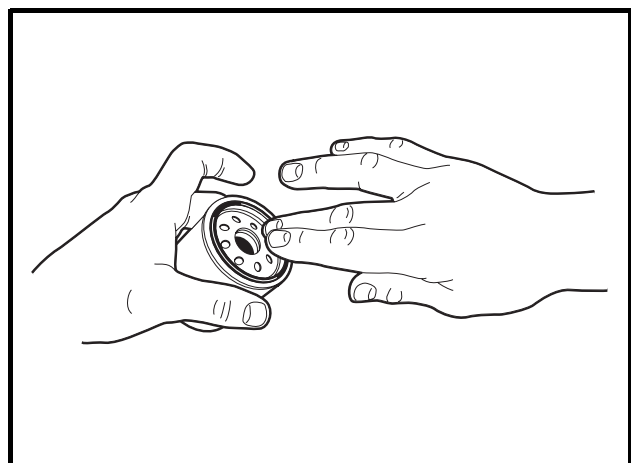

Figure 30 Coat Oil Filter Rubber Seal
11. Install a new oil filter (CCI P/N 1016467) onto the engine oil filter port. Apply a light coat of white lithium NLGI Number 2 grease (Dow Corning® BR2-Plus or equivalent) or new engine oil to the rubber seal around the outside surface of the filter before attaching it to the oil filter port (**Figure 30**). This will help seal the filter to the oil mounting bracket.